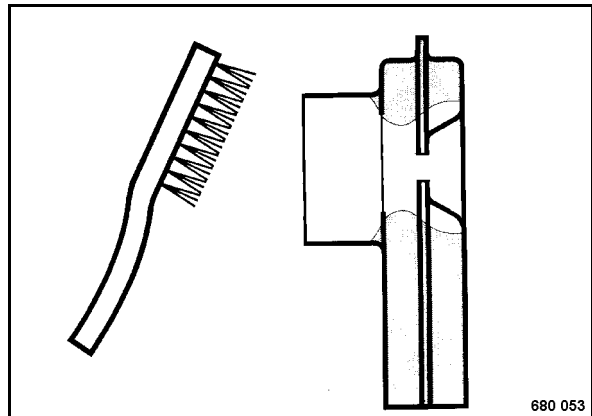

Fig. 56
- Clean deposits on the screen insert with a suitable wire brush (Fig. 56).